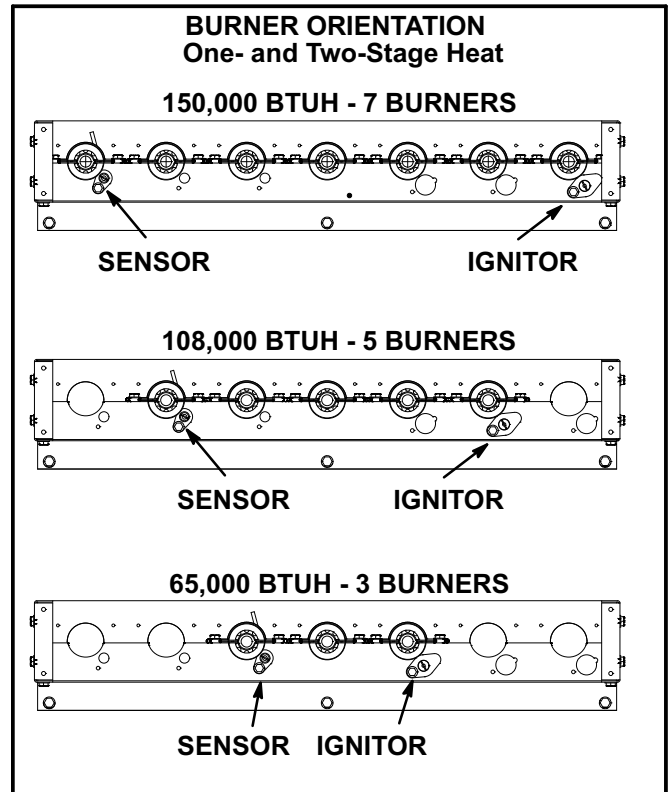

FIGURE 29
- 6- Replace burners and screws securing burner. See figure 29.